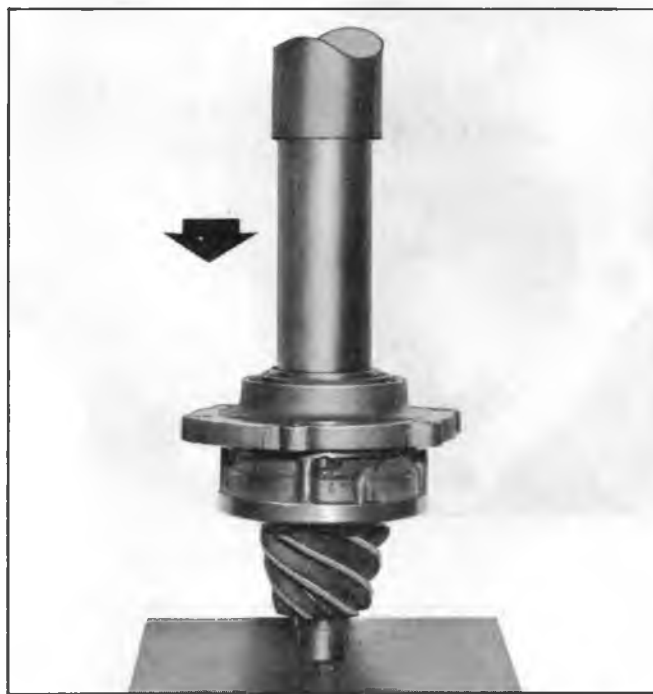

Fig. 16J--Installing Pinion and Front Bearing to Retainer
5. Press front bearing on pinion so that inner race contacts bearing spacer. A suitable length of 2 inch I.D. pipe may be used to install the bearing (fig. 16J).